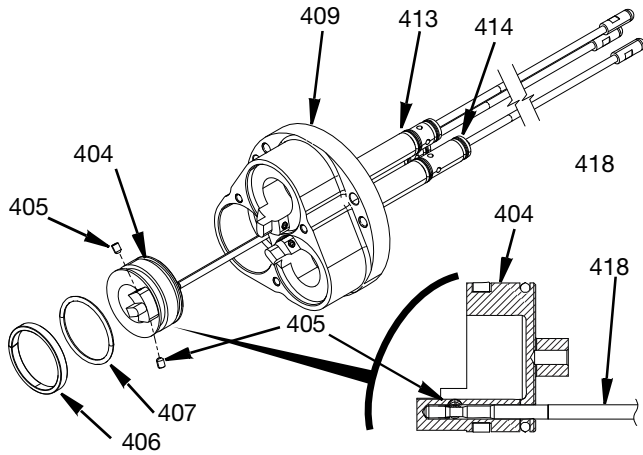

FIG. 32
6. Apply a thin coat of lithium grease to the ball shut off needles (418) and insert through the short and long bearing seal guides (413 and 414).
7. Install O-rings (407) and guide rings (406) onto pistons (404).
8. Place pistons (404) onto ball shut off needles (418) the bores of the air cylinder housing (409) until the pistons bottom out in the bores of the air piston housing. See FIG. 32.